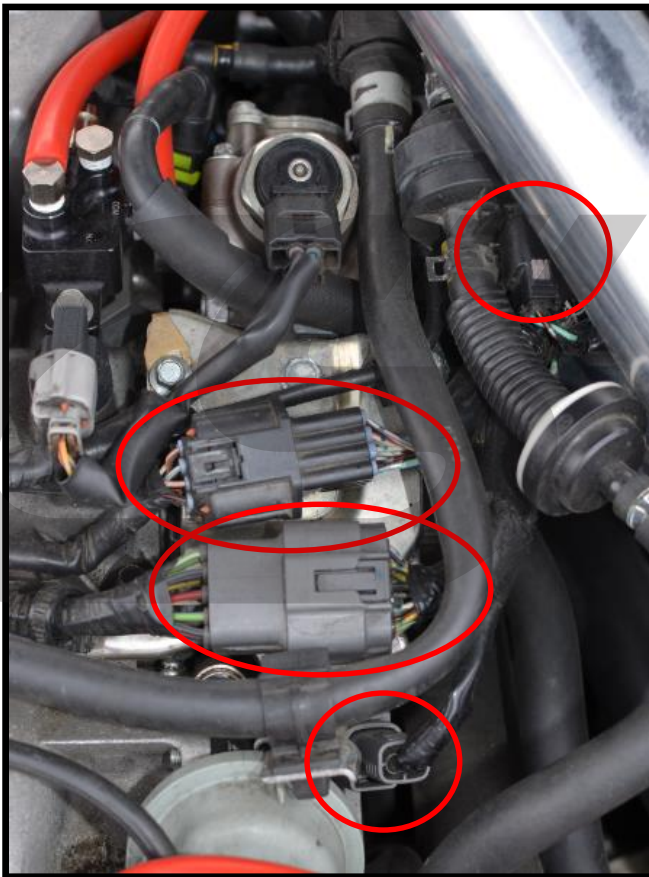

Figure 8c
- d) Disconnect the four electrical connectors circled in red in Figure 8c.